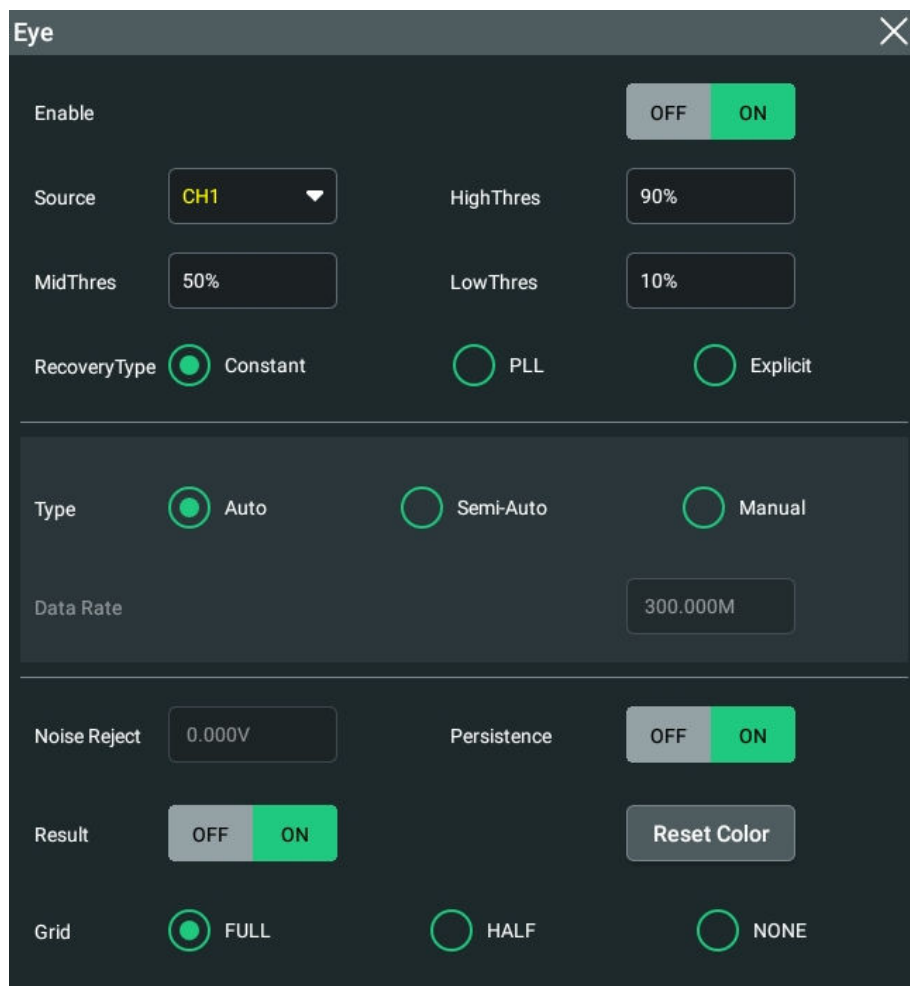

Figure 12.1 Eye Diagram Setting Menu
- Click or tap **Setting**, then the eye diagram menu is displayed, as shown in *Figure 12.1*.